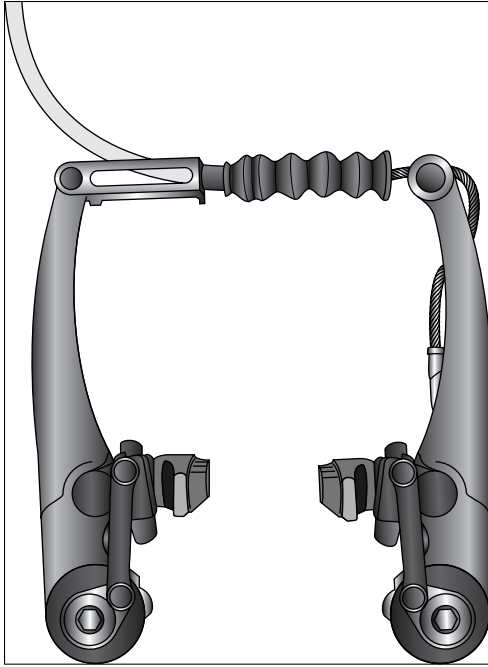

Figure 8-2:
- **V-brakes:** V-brakes (see Figure 8-2) are sometimes referred to as linear-pull or direct-pull brakes. The brake arms are at nearly a 90-degree angle to the brake pads. V-brakes are mounted on two pivots on the frame, one on each side of the wheel. The longer arms give V-brakes improved leverage and greater stopping power. They're commonly found on mountain bikes and hybrid bikes.